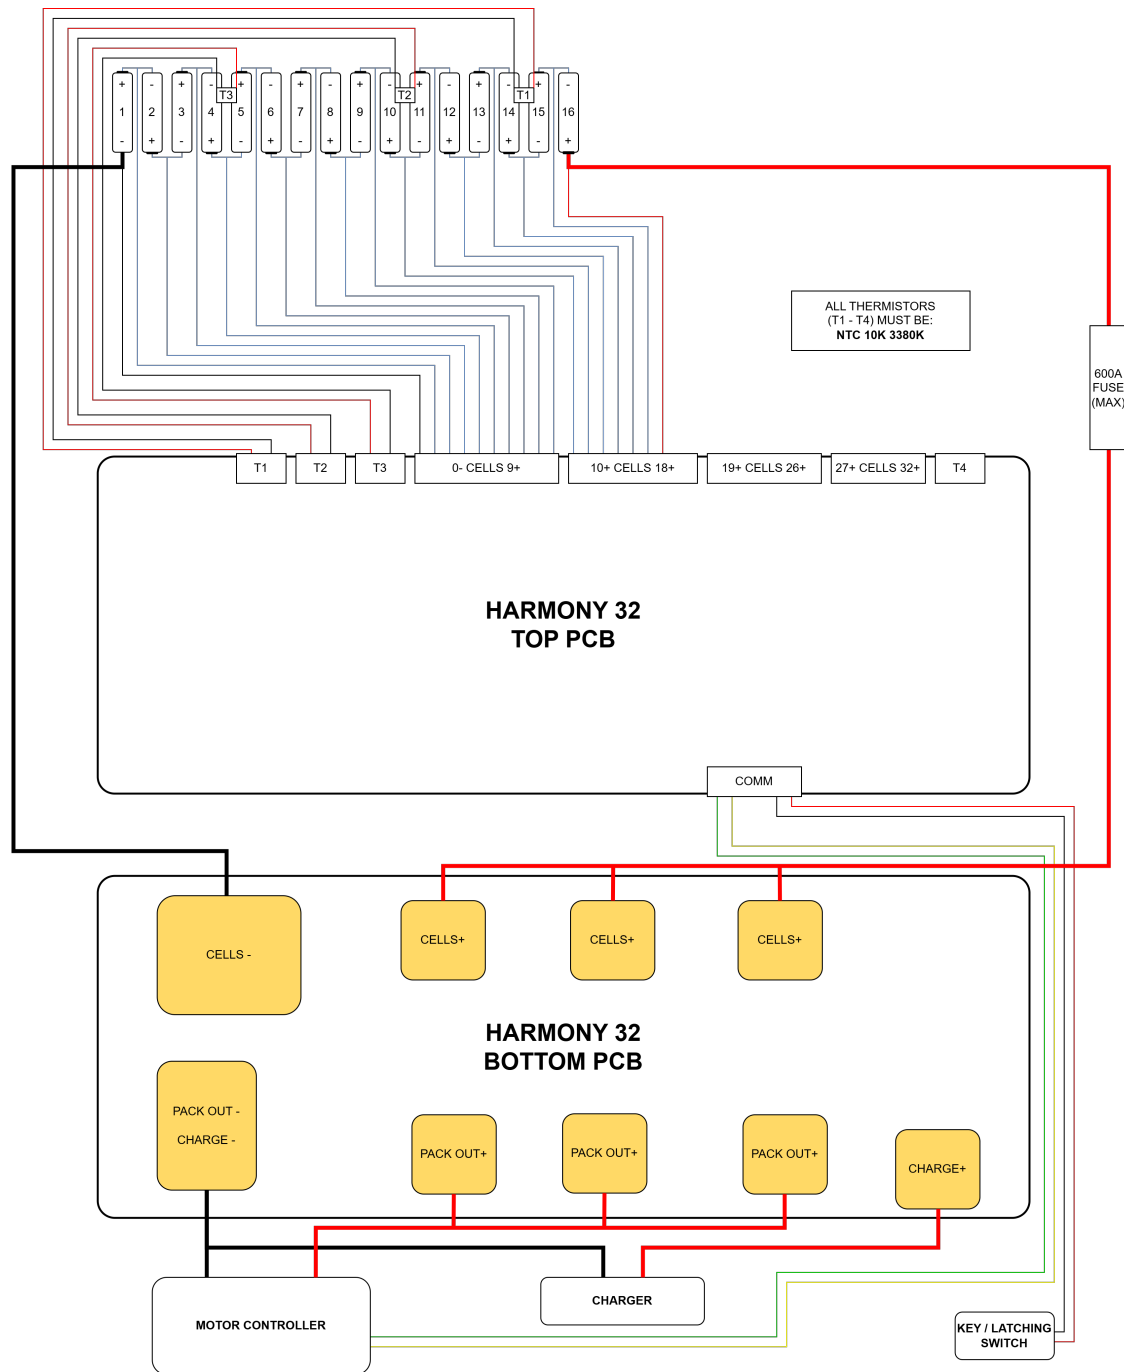

Figure 3: 16s Wiring Diagram
- If the number of cells is equal to 16, please refer to Figure 3.